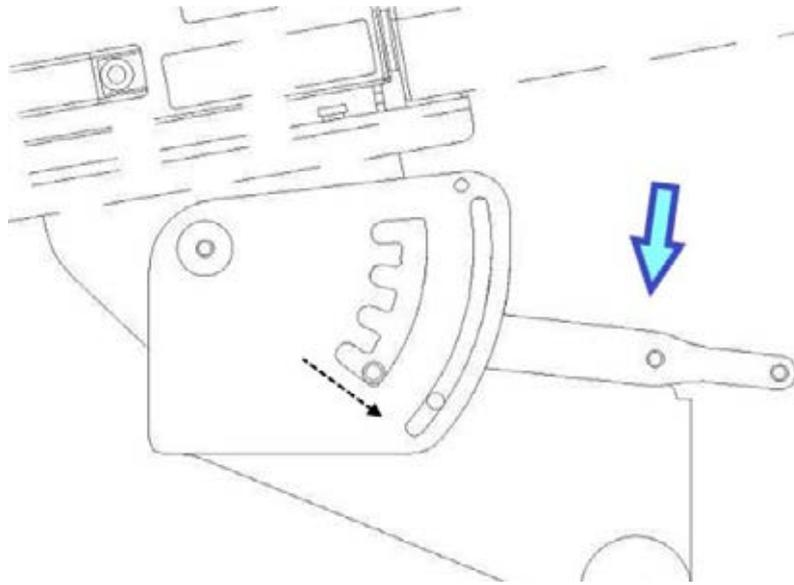

Figure 9 Disengage Dispenser Head
1. Remove the wing screws from the angle shelter on the floor stand (refer to Figure 9).
5. Install the butterfly screws in the angle shelter on the floor stand (refer to Figure 9).